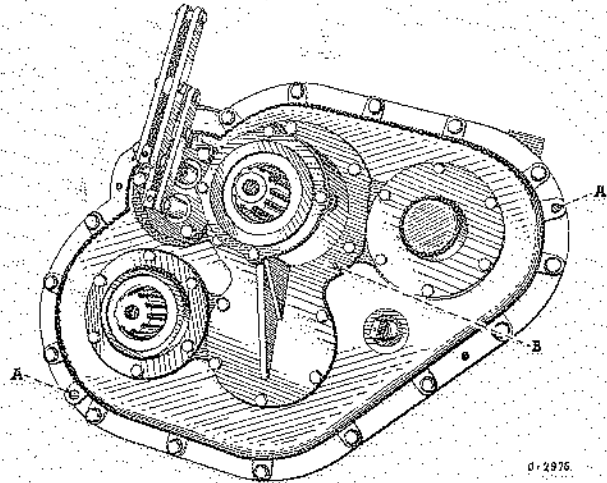

Fig. 7 - View from input side of transfer case
3. Bolt on the cover with gasket using 8 or 9 bolts spaced around the layshaft, being sure that the cover dowels are in place ("A" Fig. 7). These are pressed into the case and are a clearance fit in the cover.
4. Place the rear layshaft cover (29) in position and draw up the bolts evenly until the gear drags slightly when turned by hand. Now measure the gap between the cover face and the case.
The special plate should be removed from the housing and the input housing assembly bolted to the cover. (When removing the input housing use the two extractor holes one of which is visible at "B" in Fig. 7.)